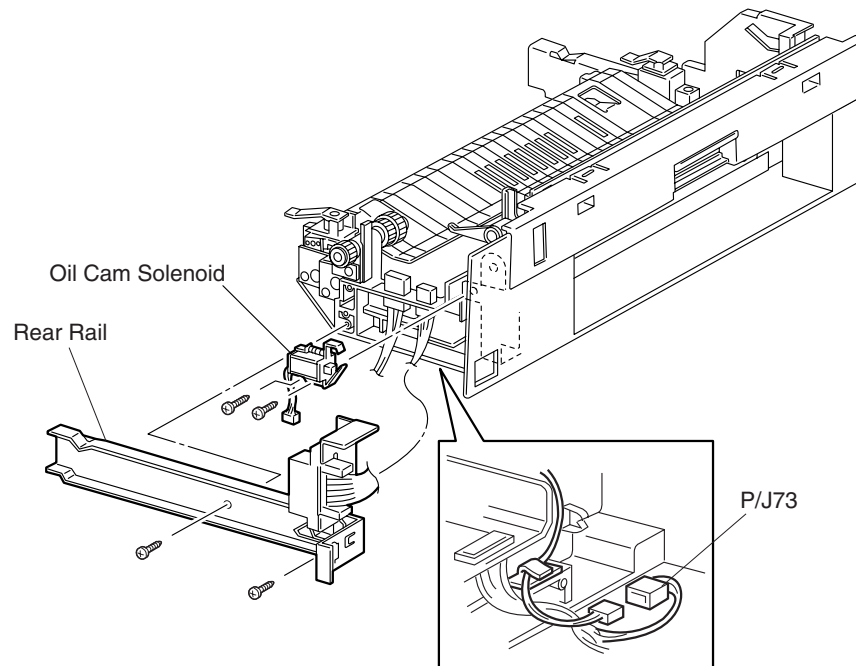

Figure 1
3. Remove the screw securing the Exchange Bracket to the Fuser Tray and slide the Exchange Bracket out of the Tray (Figure 1).
3. Remove the two screws securing the Fuser Rear Rail to the Fuser Tray and pull the Rail away from Tray (Figure 1).